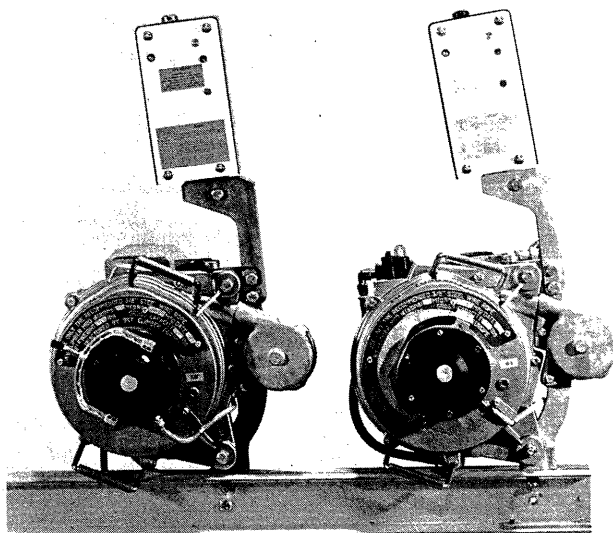

Figure 2.1
The Sky Climber Alpha 1500 Hoist is a man-rated, portable, traction sheave hoist, classified by Underwriters Laboratory (UL) and certified by the Canadian Standards Association (CSA). It climbs up and down a 3/8" diameter steel wire rope carrying men and materials to desired work stations. The Sky Climber Alpha 1500 Hoist may be used to power platforms, work cages, bosun chairs and other approved devices used in suspended operations. The Sky Climber Alpha 1500 Hoist is available for 220 VAC single phase 60 Hz electric operation and 100 PSIG air operation. See Figure 2.1.